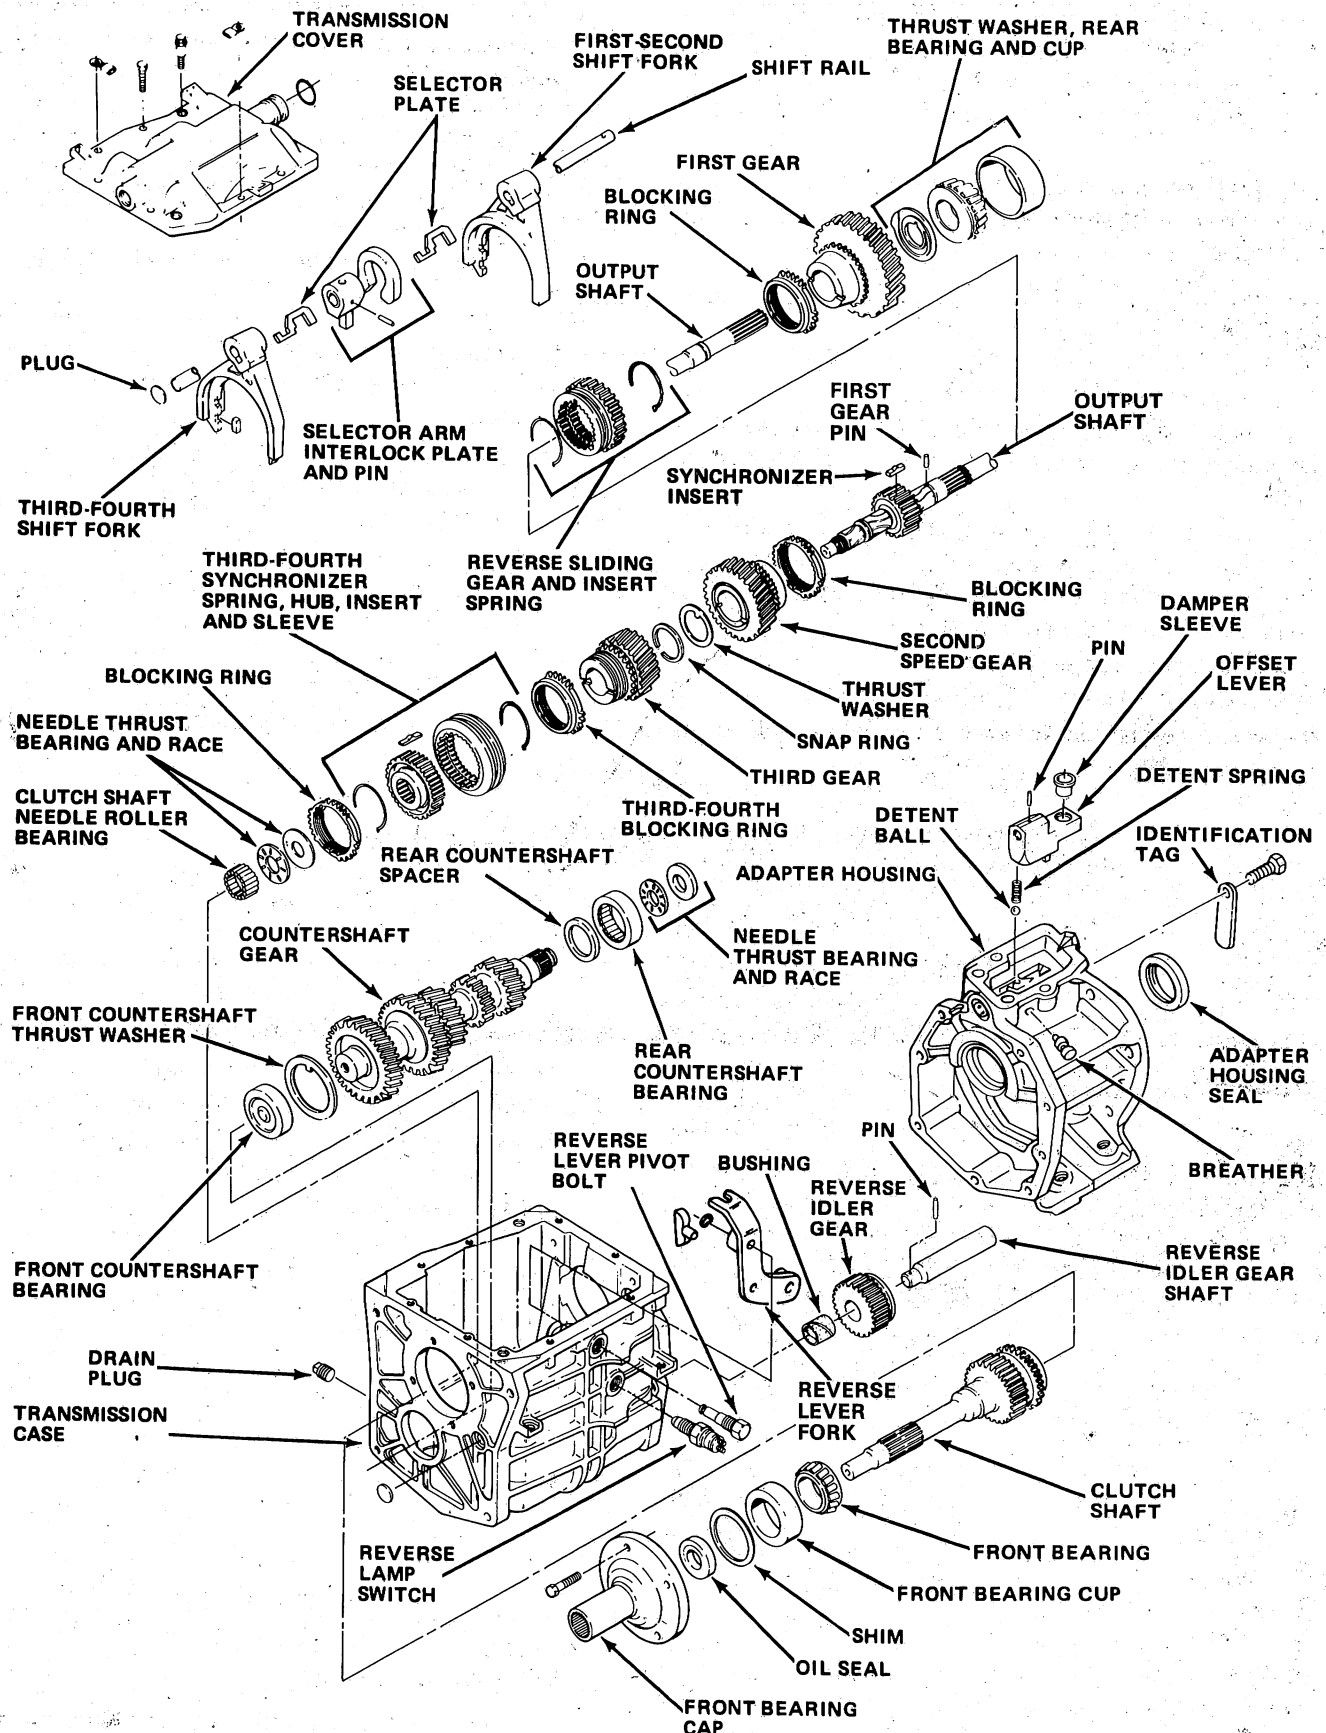

Fig. 2B-4 T4 Four-Speed Transmission
(8) Remove reverse lever pivot bolt and remove reverse lever and reverse lever fork as assembly (fig. 2B-11).
(9) Mark position of front bearing cap on transmission case using center punch, remove front bearing cap bolts and remove front bearing cap.
(10) Remove front bearing race and end play shims from front bearing cap (fig. 2B-12). Remove oil seal from bearing cap using screwdriver.
(11) Rotate clutch shaft until flat on gear teeth is facing countershaft and remove shaft (fig. 2B-13).
(12) Remove thrust bearing and 15 roller bearings from clutch shaft (fig. 2B-14).